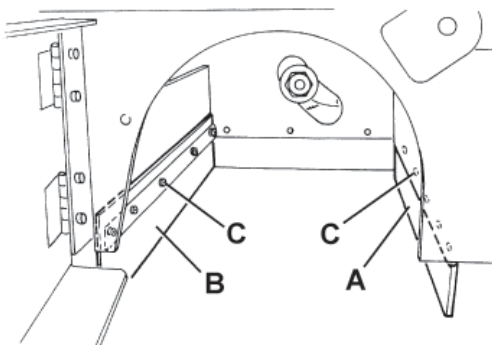
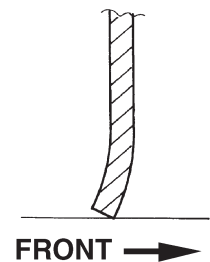

Figure 22
Figure 24
9. Check the front (A, Fig. 22) and rear skirts (B) for integrity.
10. Check that the front (A, Fig. 22) and rear skirts (B) slightly rub on the floor (see Fig. 24).
If necessary, loosen the screws (C, Fig. 22) and adjust the skirt position. Then tighten the screws (C).
11. Press the front skirt lifting pedal (75) completely, and check that the front skirt lifts 5 cm approximately.